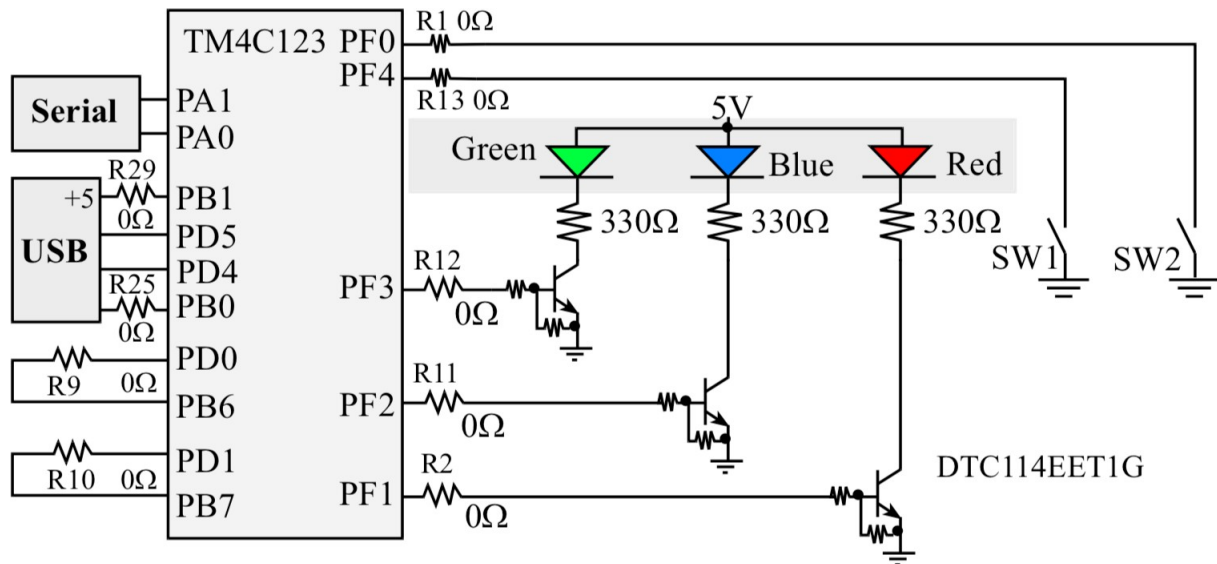

Figure 2 Switch and LED interfaces on the Stellaris® LaunchPad Evaluation Board.
- i. Diagram of your hardware system (see Figure 2 for an example)